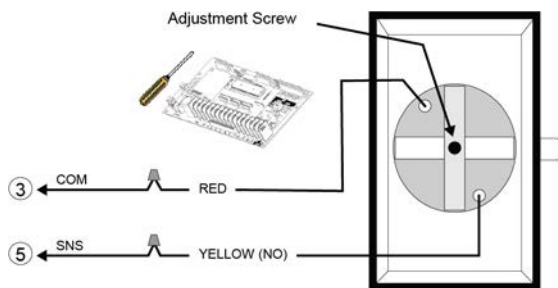
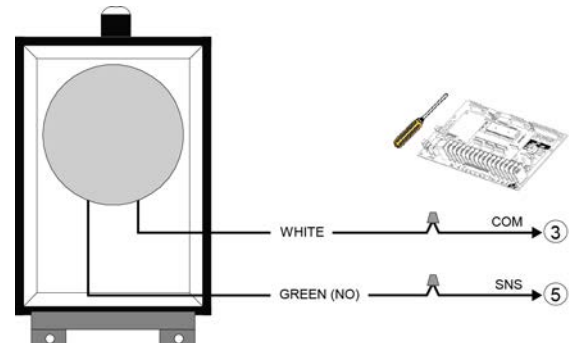

Figure 38 - AIRSWITCH 001 / 007
Figure 39 - AIRSWITCH 009 / 018
3. Use a coil cord or take-up reel to connect the air switch to the operator terminals. Install electric wires according to Figure 38 or Figure 39.